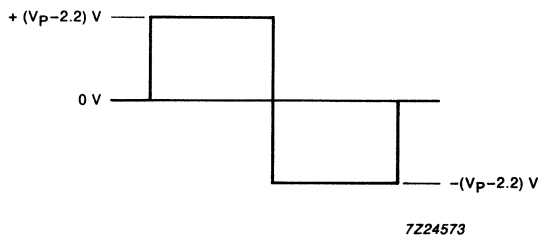

Fig.4 Maximum output voltage swing across R_L .
1. The output voltage swing is typically limited to $2 \times (V_p - 2.2) \text{ V}$ (see Fig.4).